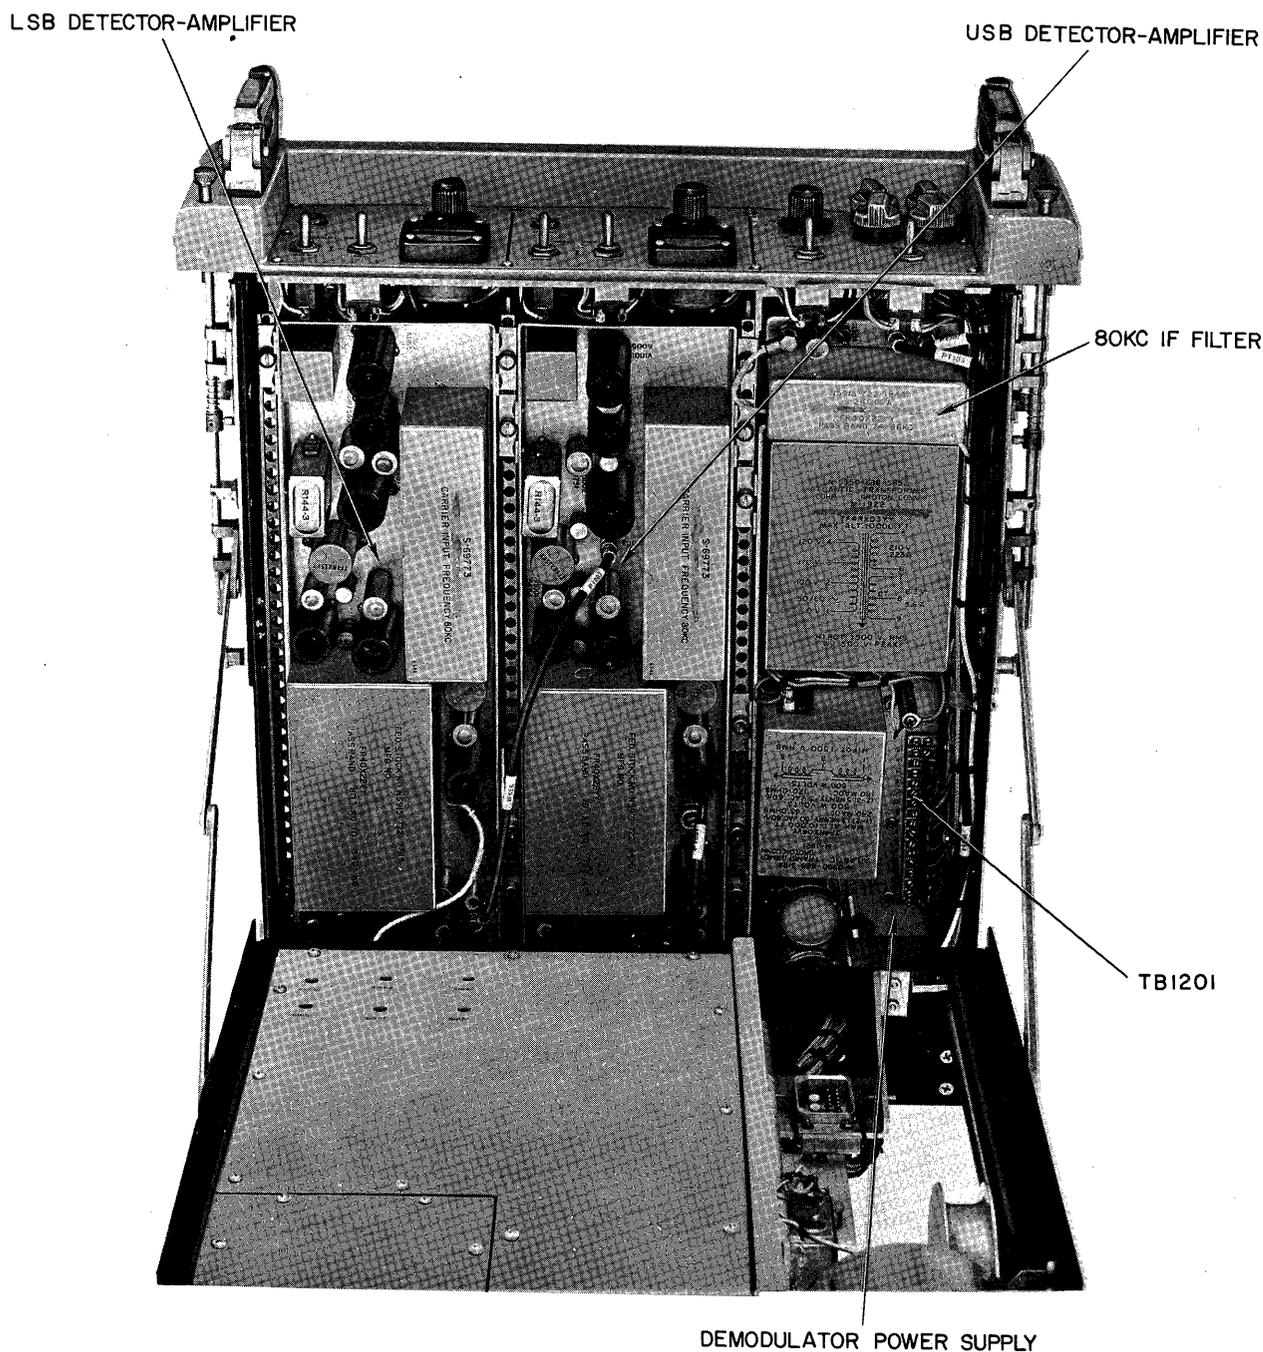

Figure 6-8. Demodulator Drawer, Lower Deck, Top View
(1) 80 KC IF FILTER. (See figure 6-8.)
(3) USB DETECTOR-AMPLIFIER. (See figures 6-8 and 6-9.)
(4) LSB DETECTOR-AMPLIFIER. (See figures 6-8 and 6-9.)